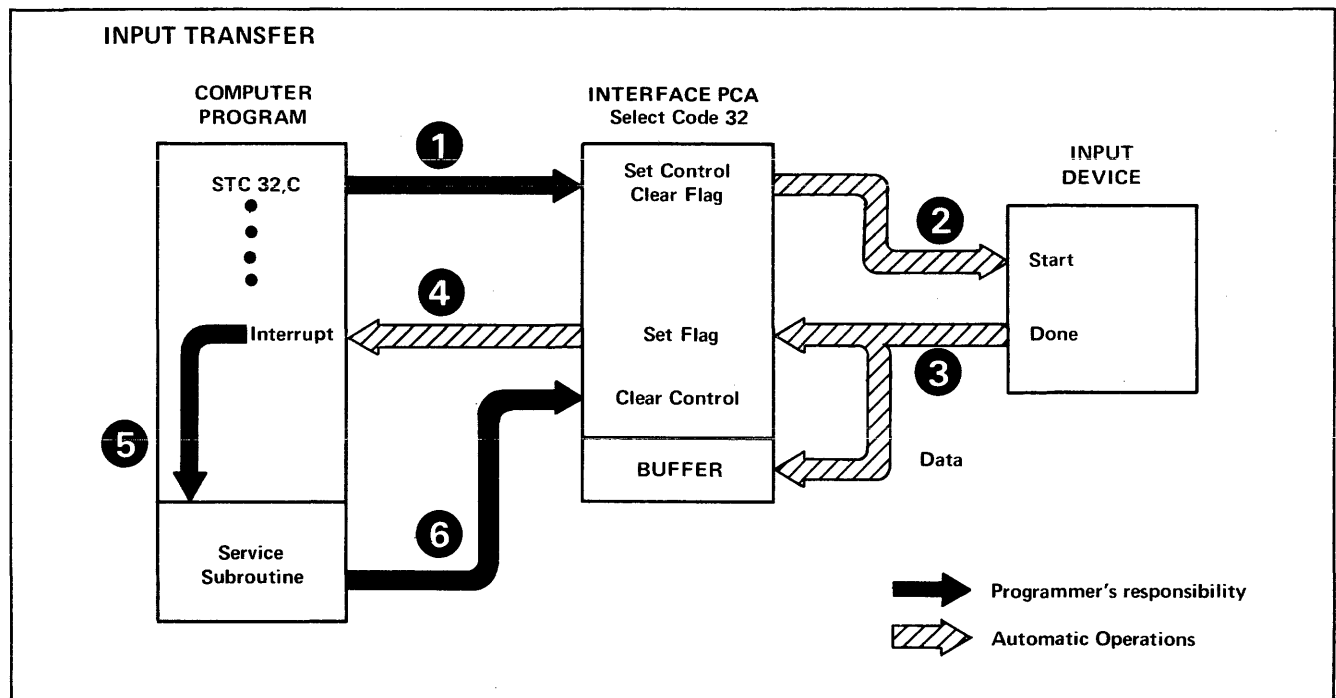
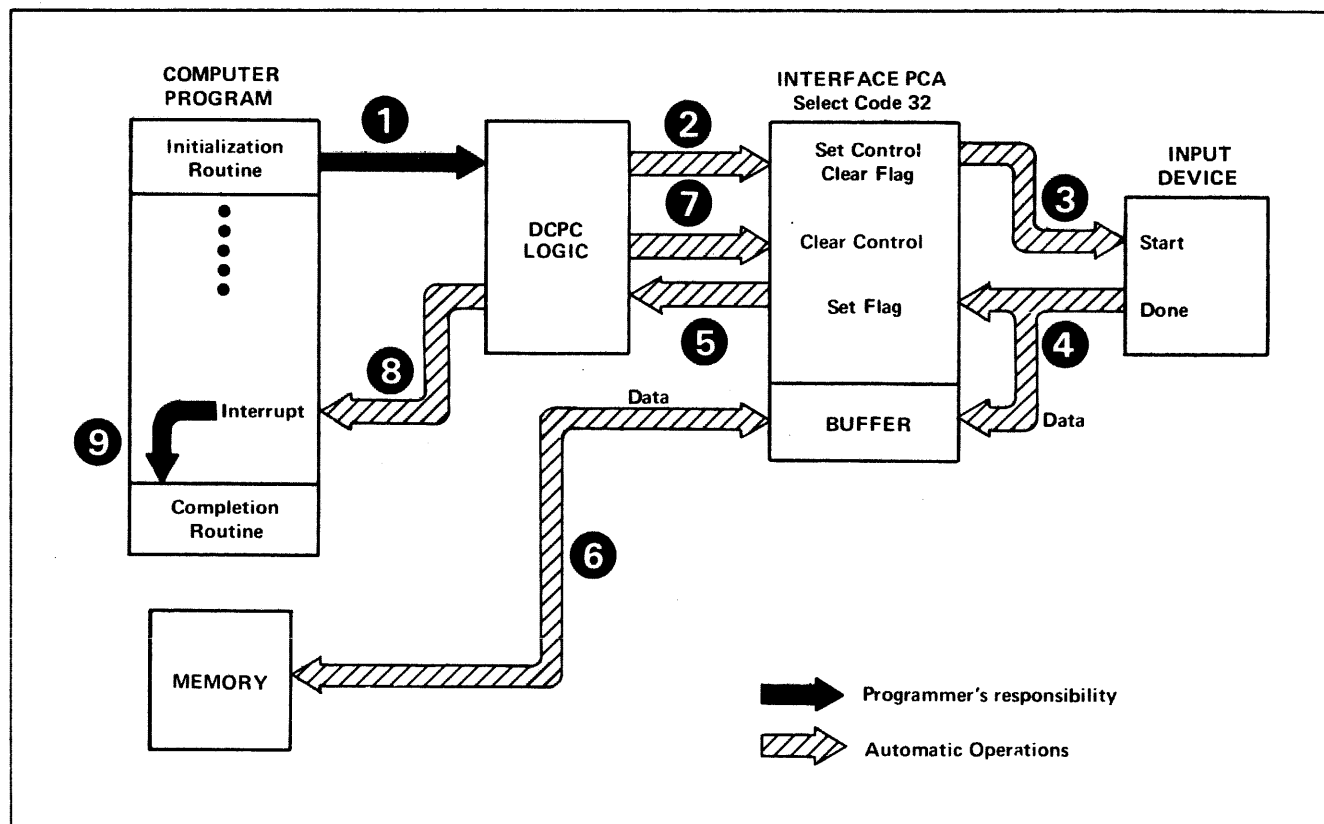

Figure 2-3. Input Data Transfer
Figure 2-6. DCPC Input Data Transfer
Figure 2-3 illustrates the sequence of operations for an input transfer. Note that some of the operations are under control of the computer program (programmer's responsibility) and some of the operations are automatic. The operation begins with a programmed instruction to set control and clear flag on the addressed interface PCA (1). In this example it is assumed that the interface PCA is installed in the slot for select code 32; thus the instruction is STC 32,C. Setting the control bit causes the interface PCA to issue a start command (2) to the external device. The device then proceeds with its electromechanical process of reading a character. When it has done so, it
Figure 2-6 illustrates the sequence of operations for a DCPC input data transfer. A comparison with the conventional interrupt method (figure 2-3) shows that much more of the DCPC operation is automatic. Remember that the procedure in figure 2-3 must be repeated for each word or character. In figure 2-6 the automatic DCPC operation will transfer a block of data of any size limited only by the available memory space. The sequence of events is as follows. (An input data transfer is illustrated; the minor differences for an output transfer are explained in text.)